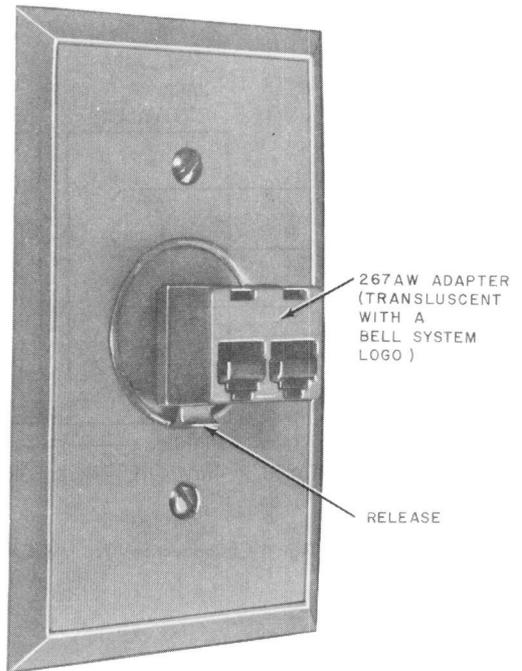

Fig. 2—267AW Adapter Mounted on 625-Type
2.02 USOC RJA2X: Uses a 267AW (Fig. 2) adapter to connect two modular jacks to one modular plug. Four leads are multipled to the same contacts in the plug and both jacks (Fig. 5). Tip and ring are always connected through to the multiple jacks. A and A1 or other leads will appear in the multiple jacks if wired into the existing jack. Leads 1 and 6 are multipled between the two jack ports only and are reserved for Telco use.